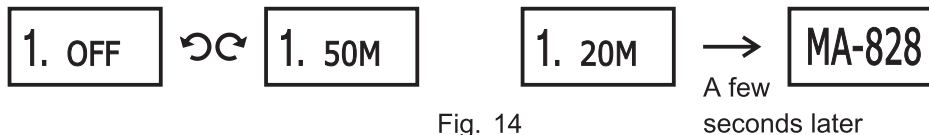

Fig. 14
- (2) To skip the setting, don't press the knob and then the parameter will not be underlined. The setting keeps the previously saved parameter. A few seconds later, it will exit to the home screen. Fig. 14